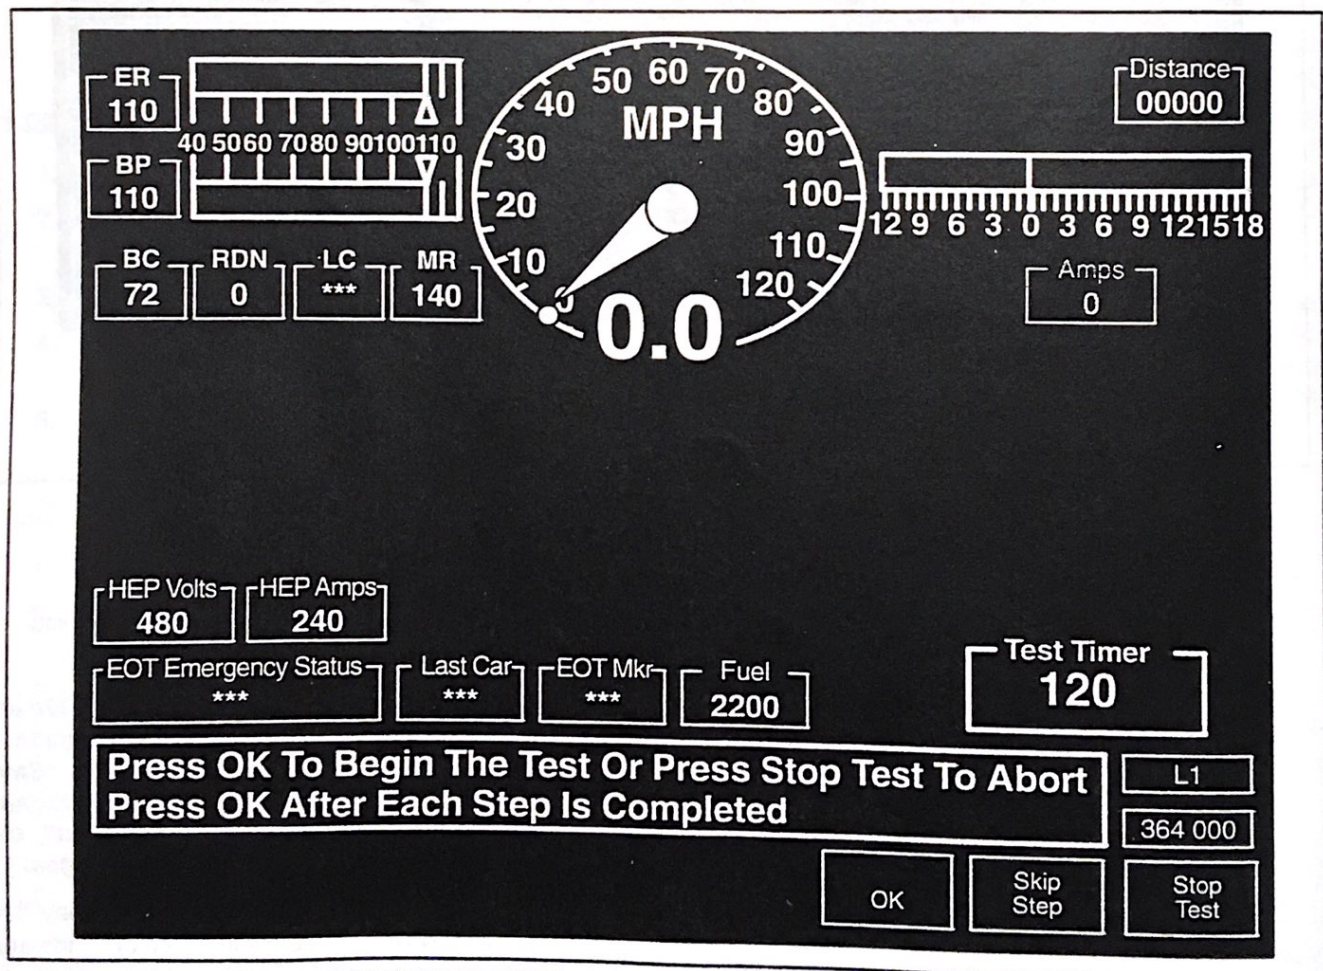

FIG. 17. LOCOMOTIVE DEPARTURE TEST SCREEN (364 000). E-42591.
1. Pressing key position F4 (**Air Brake Dep Test**) from the Operator Test Screens (360 000, Fig. 65) will display screen 364 000 (Fig. 17). This key is only active if the unit speed is equal to or below 0.5 MPH. This key is not available on the Crew Display. Proceed with test as follows: